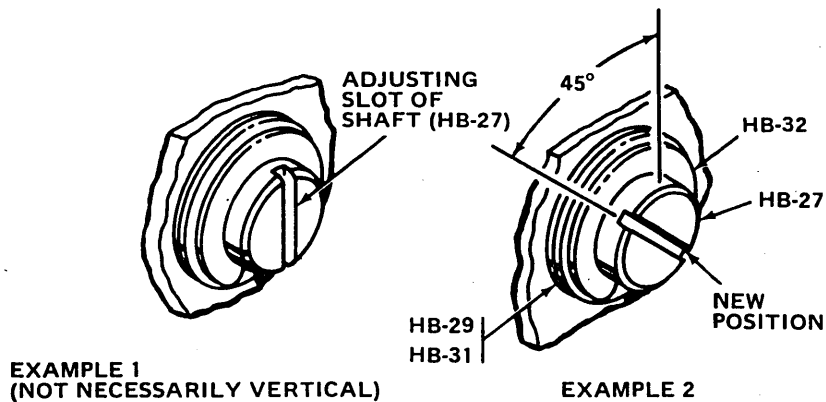

Figure 5-3. DETERMINING BACKLASH ADJUSTMENTS, SHAFT (HB-27)
3. Belt (HB-49) between riveted pulley shaft (146) and reverse pulley (HB-60); adjust belt tension by loosening screws (HB-39, 79). Position tensioner bracket (front) (HB-33) by making sure tensioner (HB-34) is pushed up against the belt completely before tightening screws.
C. BACKLASH ADJUSTMENT OF INTERMEDIATE PULLEY (HB-30) FOR FORWARD CLUTCH (FIG. 5-3)